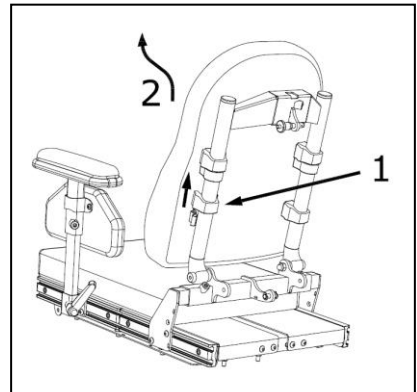

Figure 3.2
**Removing the backrest** (fig 3.2).
**Replacing the Backrest** (fig 3.2).